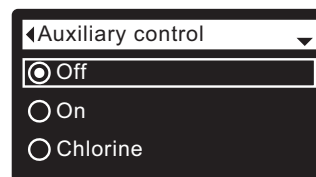

FIG. 84
7. Press the SELECT (O) button to display the Auxiliary control menu (See Figure 84).
8. If the desired option already has a black dot next to it (See Figure 84), go to Step 9. Otherwise, press the DOWN (▼) or UP (▲) buttons to scroll to the desired option, then press SELECT (O) to choose it.